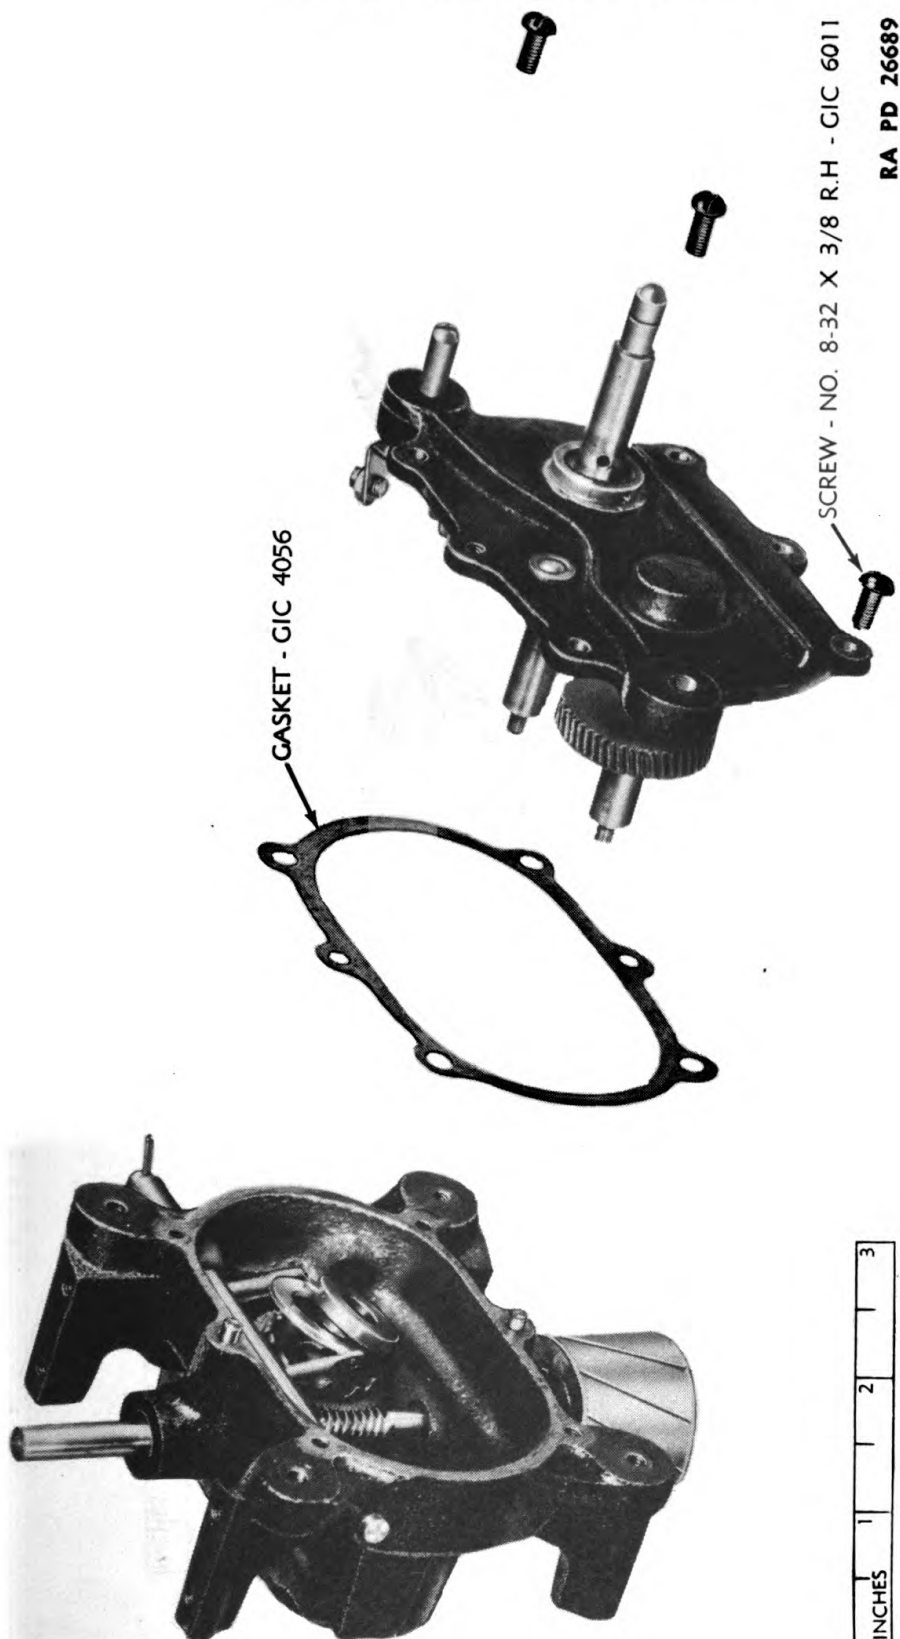

Figure 82 — Frame Casting With Gasket and Top Plate Removed
(14) Disassemble the top plate and associated parts (fig. 82) from the frame casting. Use care not to damage the gasket.